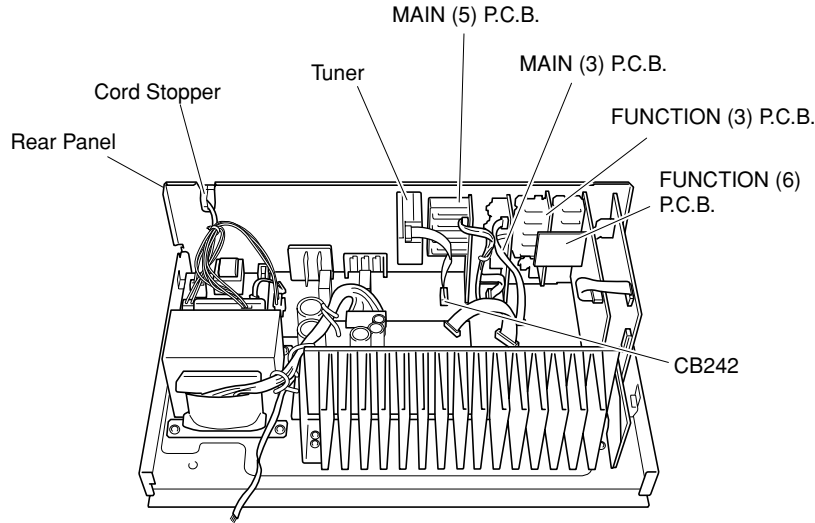

Fig. 2
**3. Removal of MAIN (3), MAIN (5), FUNCTION (3), FUNCTION (6) P.C.B.s and Tuner**
- a. Remove CB242. (Fig. 2)
- c. Remove MAIN (3), MAIN (5) P.C.B.s and the Tuner. (Fig. 2)
- g. Remove Cord Stopper. (Fig. 2)
- h. Remove Rear Panel. (Fig. 2)
- i. Remove, FUNCTION (3) and FUNCTION (6) P.C.B.s. (Fig. 2)